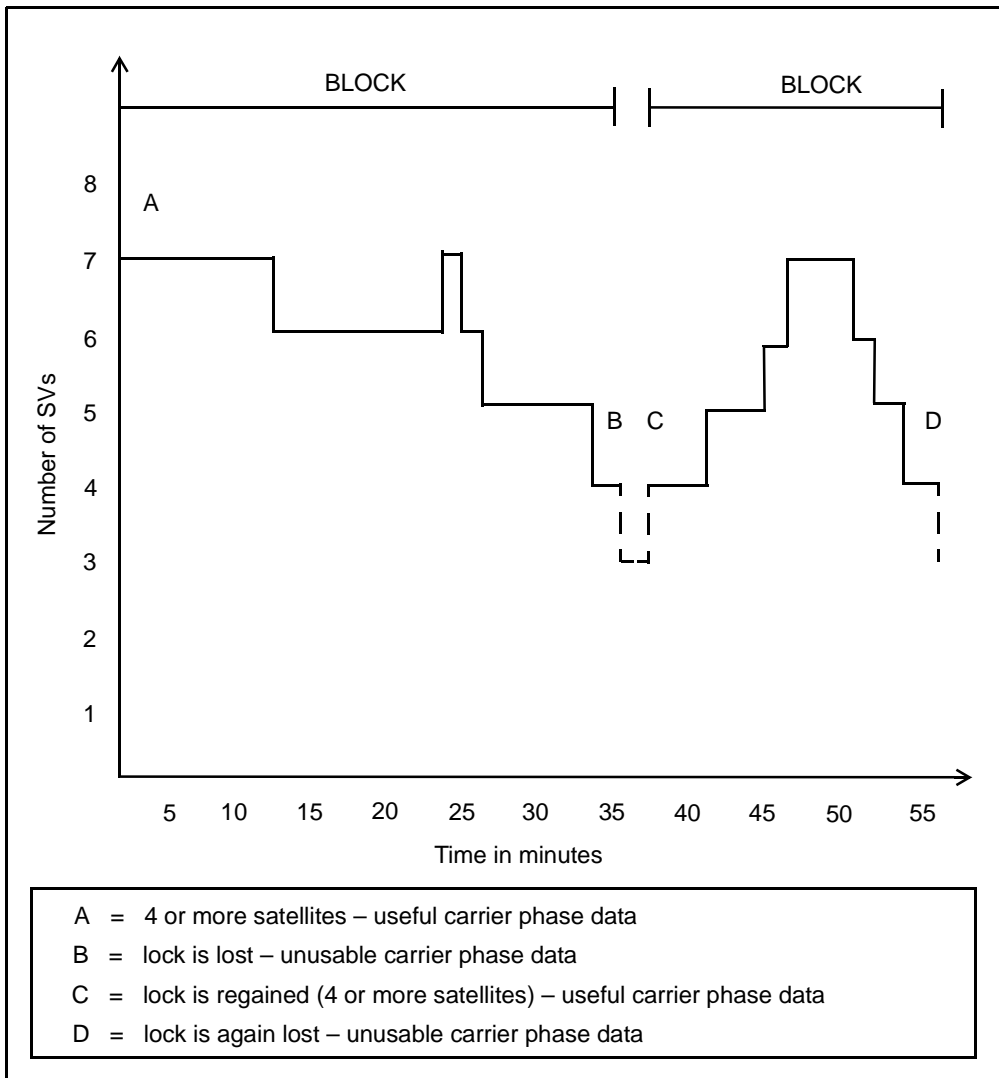

Figure 7.2 Blocks of carrier phase data relative to satellite lock
Figure 7.2 shows how the Asset Surveyor software creates distinct blocks of carrier phase data as the number of satellites changes.
In Figure 7.2, the counter begins at time zero and stops at 35 minutes when lock is lost (B). This creates the first block of carrier phase data. If you specified a minimum time of 30 minutes, for example, this first block contains sufficient useful data. It should produce positions that meet the precision you require.